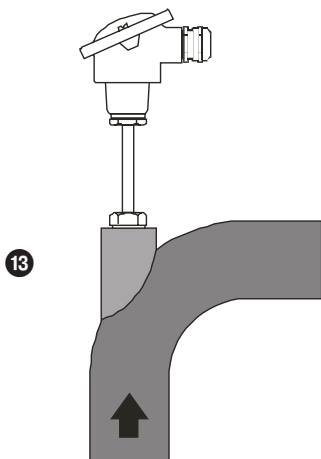
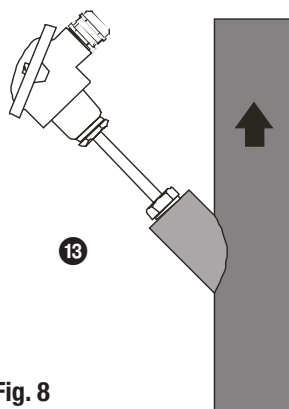

Fig. 7
Fig. 8
- To install the temperature sensor in a pipe, weld the elbow (13) onto it. This ensures that the temperature sensitive part (2, 6) of the temperature sensor is immersed in the fluid against the flow direction **Fig. 7 and Fig. 8**